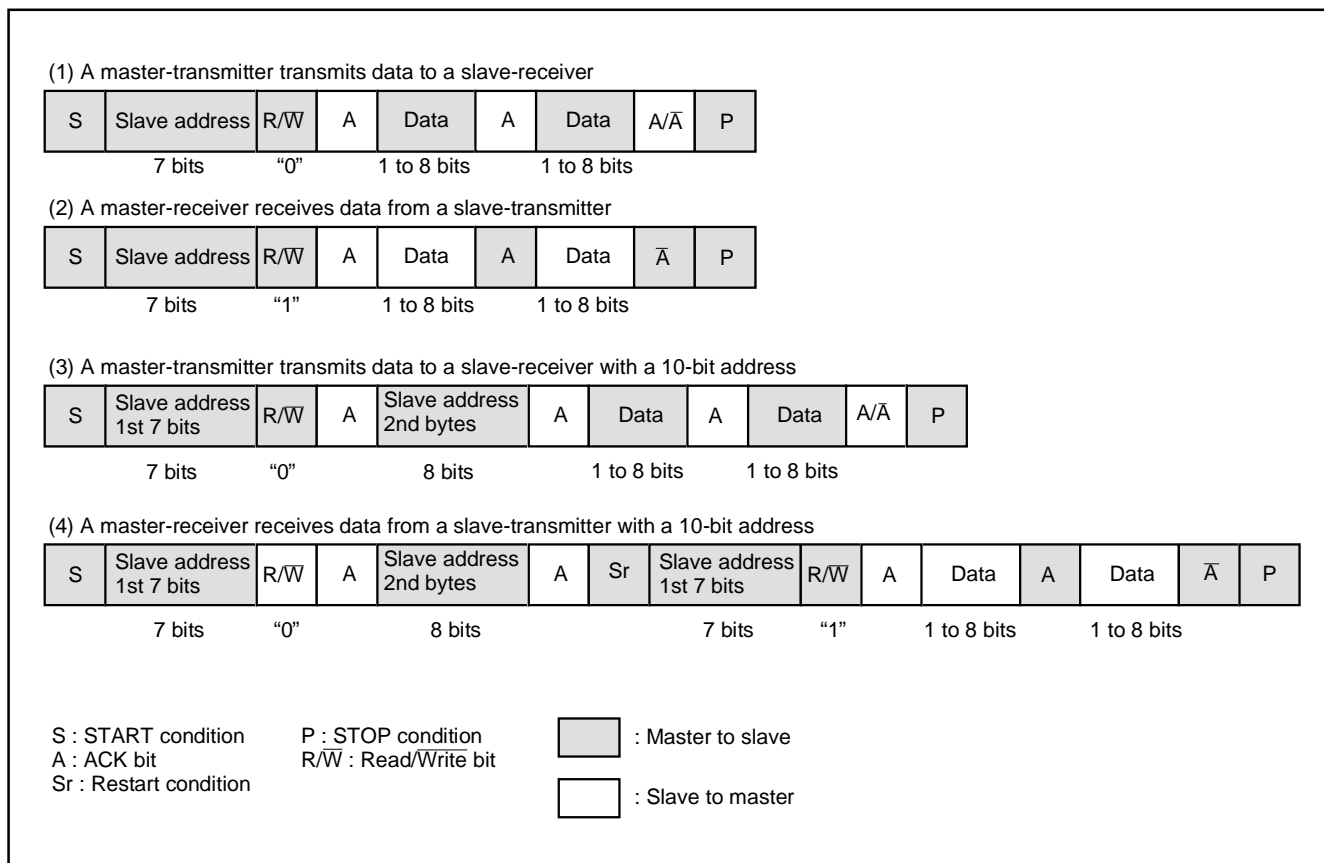

Fig. 69 Address data communication format
① 7-bit addressing format
To adapt the 7-bit addressing format, set the 10BIT SAD bit of the I²C control register (S1D: address 0014₁₆) to "0". The first 7-bit address data transmitted from the master is compared with the high-order 7-bit slave address stored in the I²C slave address register. At the time of this comparison, address comparison of the RWB bit of the I²C slave address register is not performed. For the data transmission format when the 7-bit addressing format is selected, refer to Figure 69, (1) and (2).
② 10-bit addressing format
parison, an address comparison between the RWB bit of the I²C slave address register and the R/W bit which is the last bit of the address data transmitted from the master is made. In the 10-bit addressing mode, the RWB bit which is the last bit of the address data not only specifies the direction of communication for control data, but also is processed as an address data bit. When the first-byte address data agree with the slave address, the AAS bit of the I²C status register (S1: address 0013₁₆) is set to "1." After the second-byte address data is stored into the I²C data shift register (S0: address 0011₁₆), perform an address comparison between the second-byte data and the slave address by software. When the address data of the 2 bytes agree with the slave address, set the RWB bit of the I²C slave address register to "1" by software. This processing can make the 7-bit slave address and R/W data agree, which are received after a RESTART condition is detected, with the value of the I²C slave address register. For the data transmission format when the 10-bit addressing format is selected, refer to Figure 69, (3) and (4).